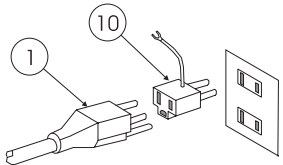

Figure 5 - Plug Adapter
- A 3 prong to 2 prong **Plug Adaptor** is provided for your convenience. See Figure 5.
If your receptacle is ungrounded (accepts only plugs with two blades), the 3 to 2 Plug Adapter that is supplied with the unit can be used. The Adapter Plug has a green wire that is used to connect the adapter to earth ground where permitted or accessible. Please check local electrical laws governing grounding practices. See Figure 5 below.